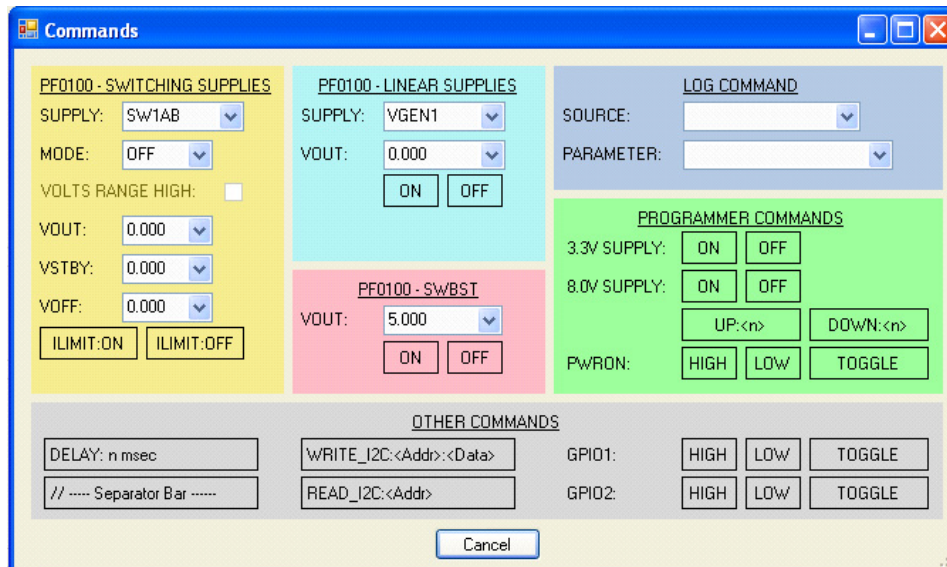

Figure 40. Command Selector Window
- **Commands:** Displays the pop-up window shown in Figure 40, with a graphical set of commands to add to the script.
Proceed by manually writing the desired commands or use the “Command” button to display a graphical command selector in a new window, as shown in Figure 40.